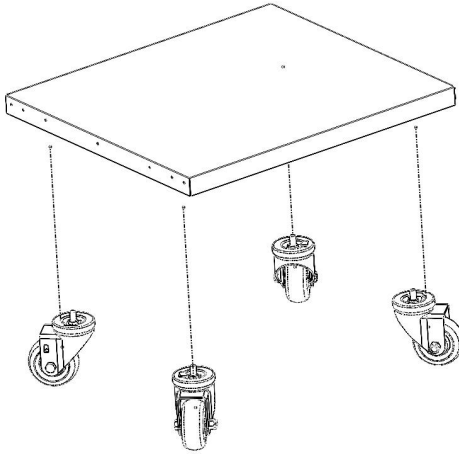

Figure 1
1. Place Casters on the bottom of the Bottom Panel, screw them with the rack's bottom nuts. Tighten them by 14mm spanner. See Figure 1.